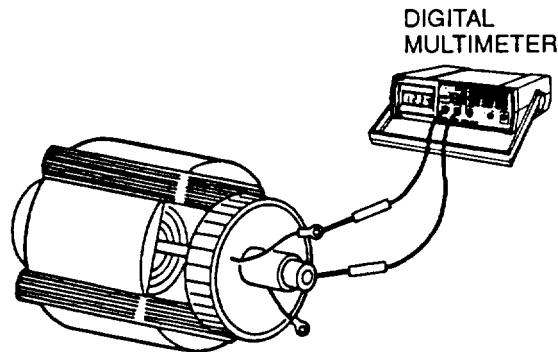

FIGURE 4-21. Testing Rotor for Grounds
- h. Connect multimeter leads between F1+ and rotor shaft and between F2- and rotor shaft return (FIGURE 4-21). Multimeter should not register.